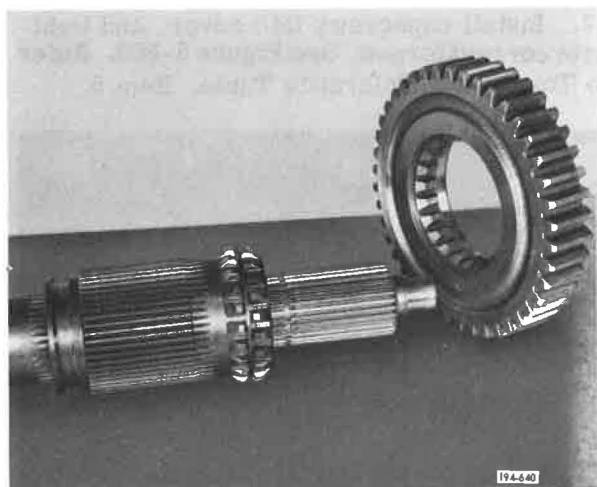

Figure 5-511. Installing Gear
14. Install third speed gear onto front mainshaft. See Figure 5-511.